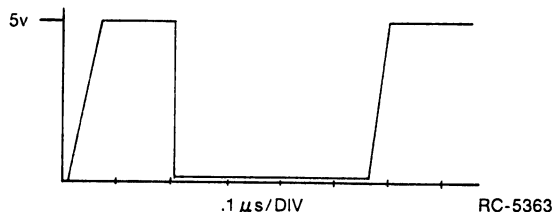

Figure 19 - ALE Clock
3. Check for oscillator activity by examining the ALE clock on U701, Pin 30 (see Figure 19). If not present, examine the system clock on U701, Pin 18 (5 volts pp at 11.059 MHz). The presence of the system clock, but no ALE may indicate a bad U701. If the system clock is not present, suspect Y701 and related components.